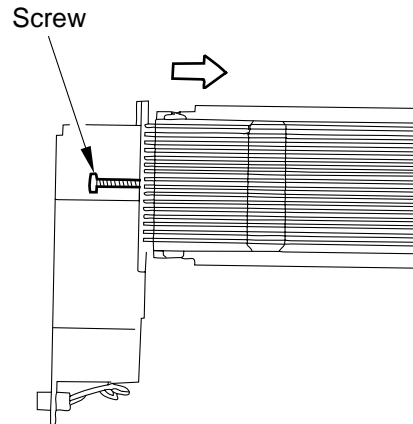

Figure 4-330
- 3) Loosen the mounting screw, and move the grid in the direction shown in Figure 4-330; then, fix it in place temporarily.